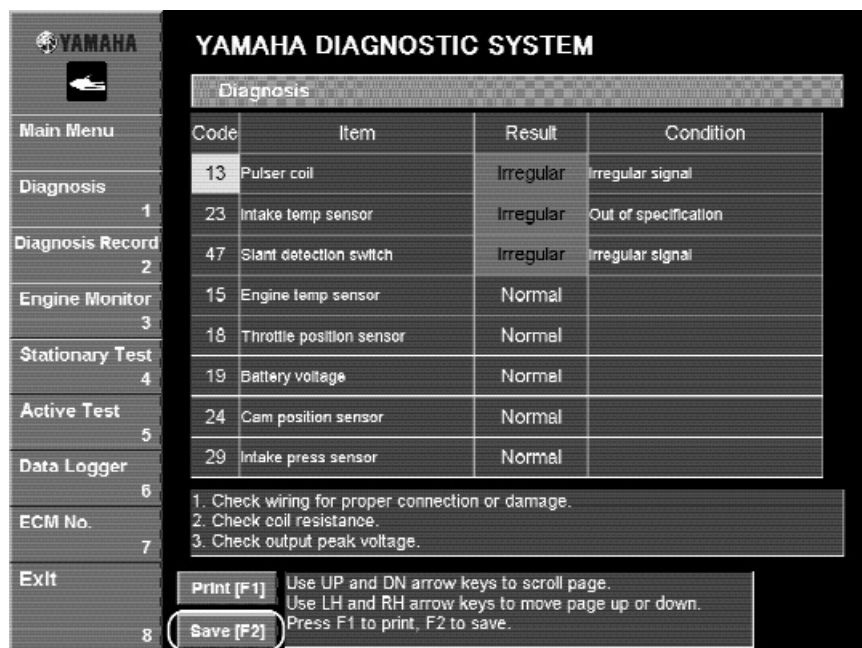

Fig. 28
1. Click the **Save [F2]** button or press the F2 key on your keyboard. The **Save As** dialog box is displayed. (Fig. 28)